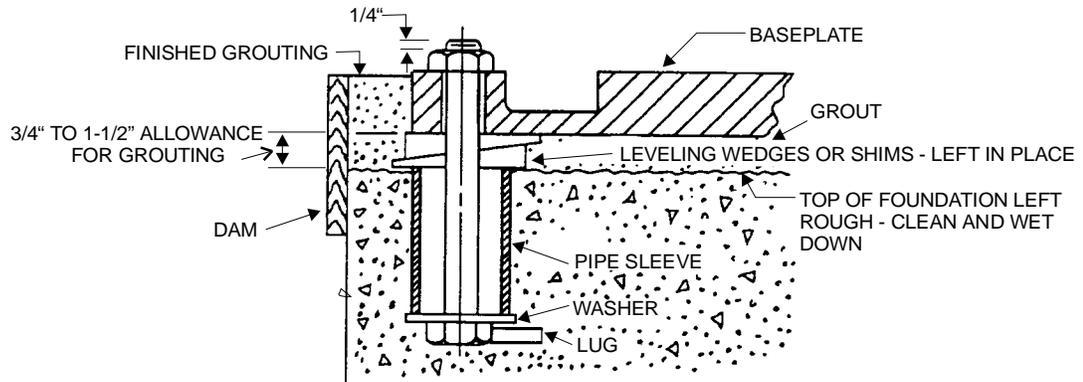
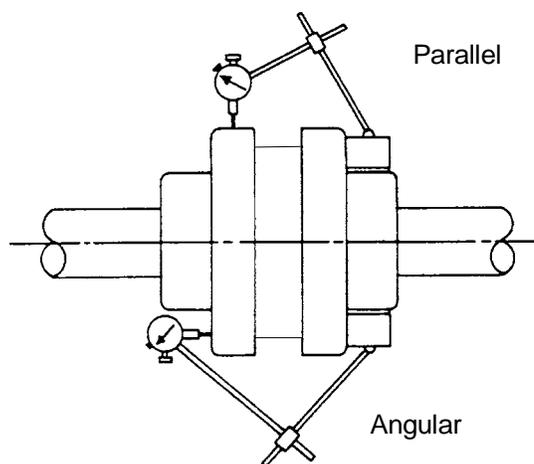
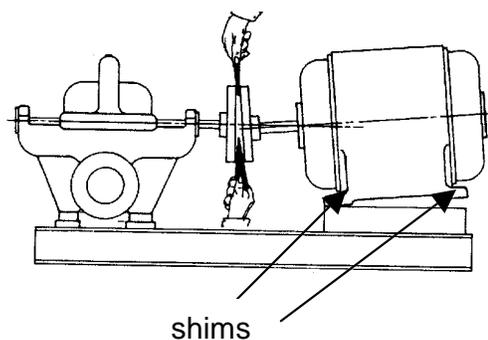

Figure 3. Grouting and Foundation Bolting
Figure 5. Coupling Alignment
Figure 6. Adjusting Alignment
Hydraulic Institute (HI) recommends a foundation capable of absorbing vibration at least five times the weight of the pumping unit and to form a permanent, rigid support for the base plate. Consequently, maintaining the alignment is important for a flexible coupled unit. Refer to Figure 5 and Figure 6 illustrating alignment. A concrete foundation on a solid base is recommended. Use foundation bolts of the proper size embedded into the concrete. A pipe sleeve larger in diameter than the bolt should be used. This allows movement for final positioning of the bolts. Refer to Figure 3, Grouting and Foundation Bolting.
1. Lightly tighten foundation bolts evenly but not fully. Refer to Figure 3, Grouting and Foundation Bolting.
The coupling should NOT be reconnected until the alignment has been completed. Align coupling using a dial indicator to attain more accurate coupling alignment. Refer to Figure 5, Coupling Alignment.
The corrections, which are made to the alignment in one direction, may affect the alignment in the other direction. Angular and parallel misalignment are corrected by means of shims. The shims are placed under the driver mounting feet to align the coupling. Refer to Figure 6, Adjusting Alignment.
If necessary, the coupling should be realigned after installing piping. Realign, if necessary, by adjusting the driver end. Refer to Figure 6.